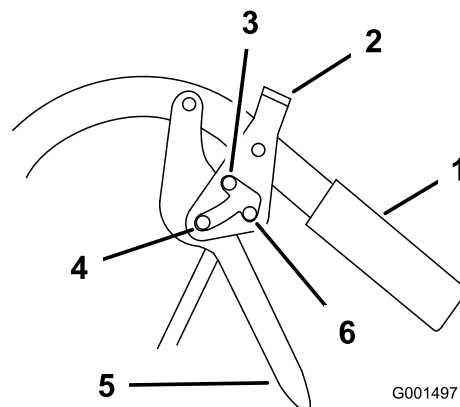

Figure 5
1. Squeeze the drive levers (Figure 5).
2. Place your thumbs on the upper part of the locks and move them forward in into the PARK position (Figure 5).
1. Squeeze the drive levers rearward (Figure 5).
2. Place your thumbs on the upper part of the locks and move them rearward until they are in the DRIVE position (Figure 5).
2. Place your thumbs on the upper part of the locks and move them rearward into the NEUTRAL-LOCK position (Figure 5).
2. Place your thumbs on the upper part of the locks and move them forward until they are in the DRIVE position (Figure 5).